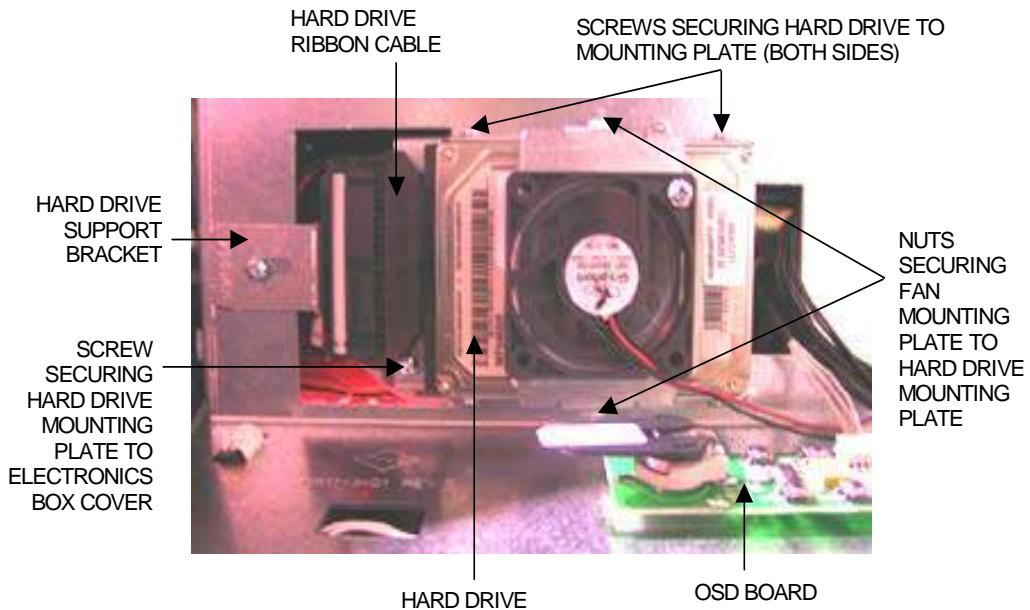

FIGURE 4 - NON-QUICK-CLICK HARD DRIVE ASSEMBLY ON ELECTRONICS BOX
4. Loosen the screw on the hard drive support bracket and disconnect the hard drive ribbon cable from the hard drive (see Figure 4).
5. Remove the screw supporting the hard drive mounting plate and slide the hard drive and mounting plate off of the electronics box cover. See Figure 4.
6. Separate the CPU fan mounting plate from the hard drive mounting plate by removing the 2 nuts (see Figure 4).
7. Remove the 4 screws and washers from the hard drive mounting plate, then carefully extract the hard drive. See Figure 4.
1. Insert the new hard drive, circuit board-side down with the connection facing left, into the hard drive mounting plate. Secure the hard drive in place with 4 screws and washers. See Figure 4.
2. Reattach the CPU fan mounting plate to the hard drive mounting plate with the 2 existing nuts. See Figure 4.
3. Slide the hard drive mounting plate into place on the electronics box cover and secure it with the existing screw. See Figure 4.